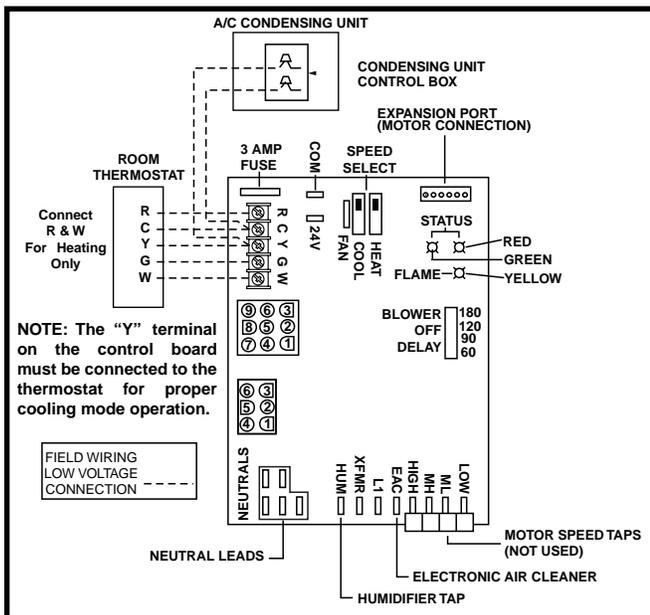

Figure 22. Low Voltage Field, Four-wire Heating/Cooling Applications
- The thermostat must be installed according to the instructions supplied by the thermostat manufacturer. Low voltage connections (24 VAC) from the thermostat are wired to the terminal strip on the integrated control in the furnace. Figure 22 (page 24) contains the proper connections for heating only (two-wire) and heating/cooling (four-wire) applications. Recommended minimum wire gauge for thermostat wiring is shown in Table 5 (page 24).
The operating sequences for the heating, cooling, and fan modes are described below. Refer to the field and furnace wiring diagrams: (Figure 22, page 24) and (Figure 27 page 33).